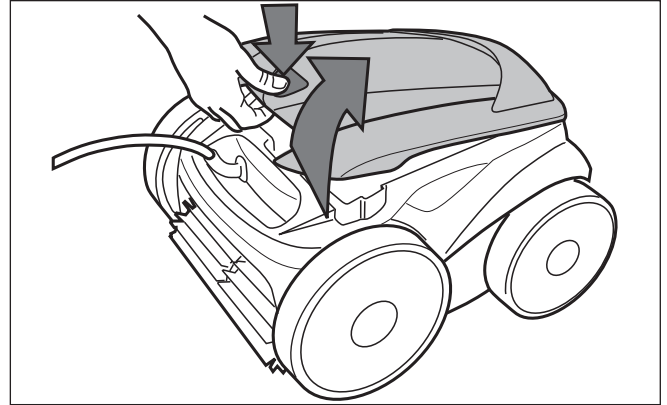

Figure 16 Lift Cleaner Cover
4. Push the cover lock and lift the cover until it is secured in the vertical position (Figure 16).